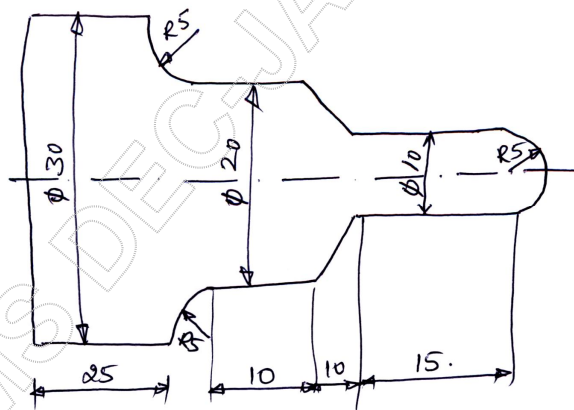

Fig.Q7(c) All dimensions are in mm
- c. Write the part program for the part shape shown in Fig.Q7(c). Assume suitable machining parameters.